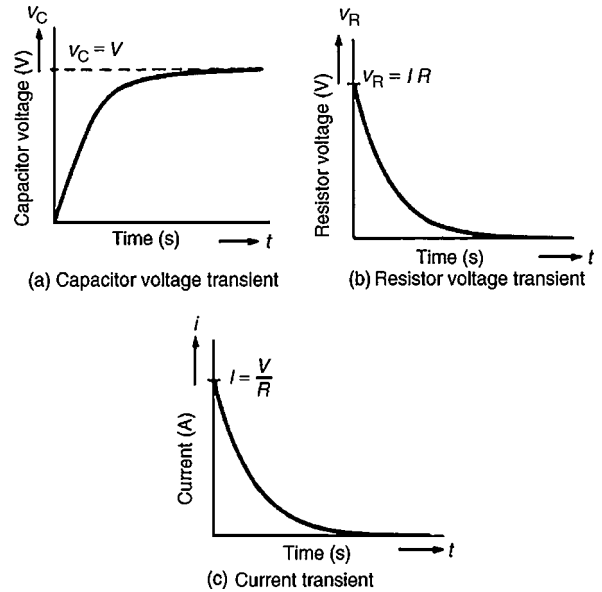

Figure 18.2
- (c) A short time later at time t_1 seconds after closing S , the capacitor is partly charged to, say, q_1 coulombs because current has been flowing. The voltage v_{C1} is now (q_1/C) volts. If the current flowing is i_1 amperes, then the voltage drop across R has fallen to $i_1 R$ volts. Thus, Equation (2) is now $V = (q_1/C) + i_1 R$.
- (e) Ultimately, a few seconds after closing S , (i.e. at the final or **steady state** condition), the capacitor is fully charged to, say, Q coulombs, current no longer flows, i.e. $i = 0$, and hence $v_R = iR = 0$. It follows from Equation (1) that $v_C = V$.
- (f) Curves showing the changes in v_C , v_R and i with time are shown in Fig. 18.2
- (a) If a constant d.c. voltage is applied to a series connected $C - R$ circuit, a transient curve of capacitor voltage v_C is as shown in Fig. 18.2(a).
The transient curves shown in Fig. 18.2 have mathematical equations, obtained by solving the differential equations representing the circuit. The equations of the curves are: